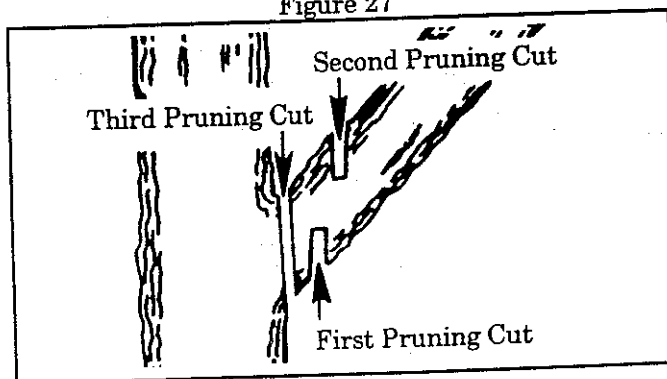

Figure 28
- b. **Refer to Figure 28 for the pruning technique.**